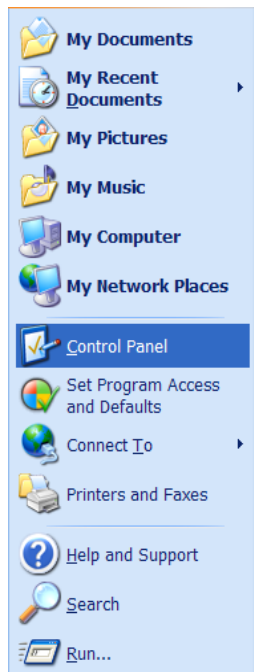
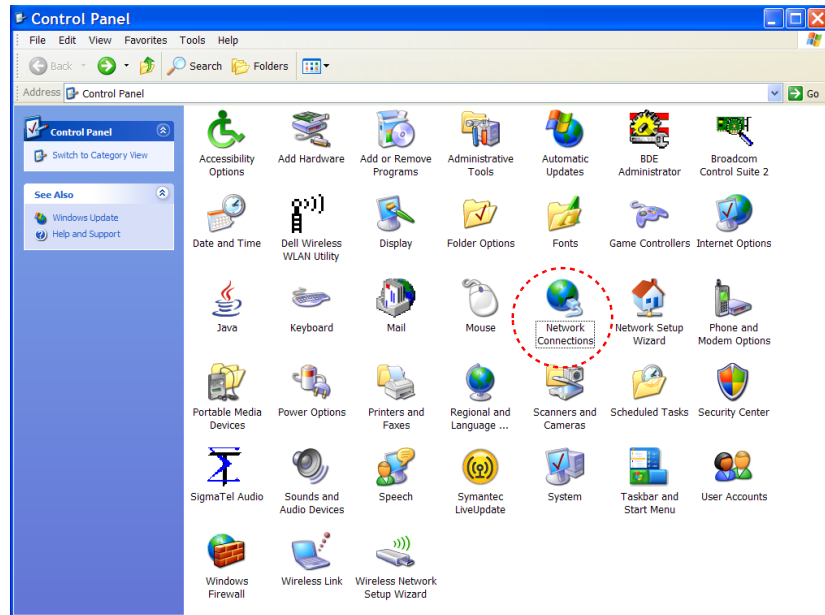

Figure 2.12 – Start Menu
Figure 2.13 – Control Panel
Step 1: Open the control panel by clicking on the start menu and then clicking on Control Panel (Figure 2.12). (Note that control panel shown (Figure 2.13) is in “Classic View”. If control panel is in “Category View” select the “Classic View” option before proceeding.)